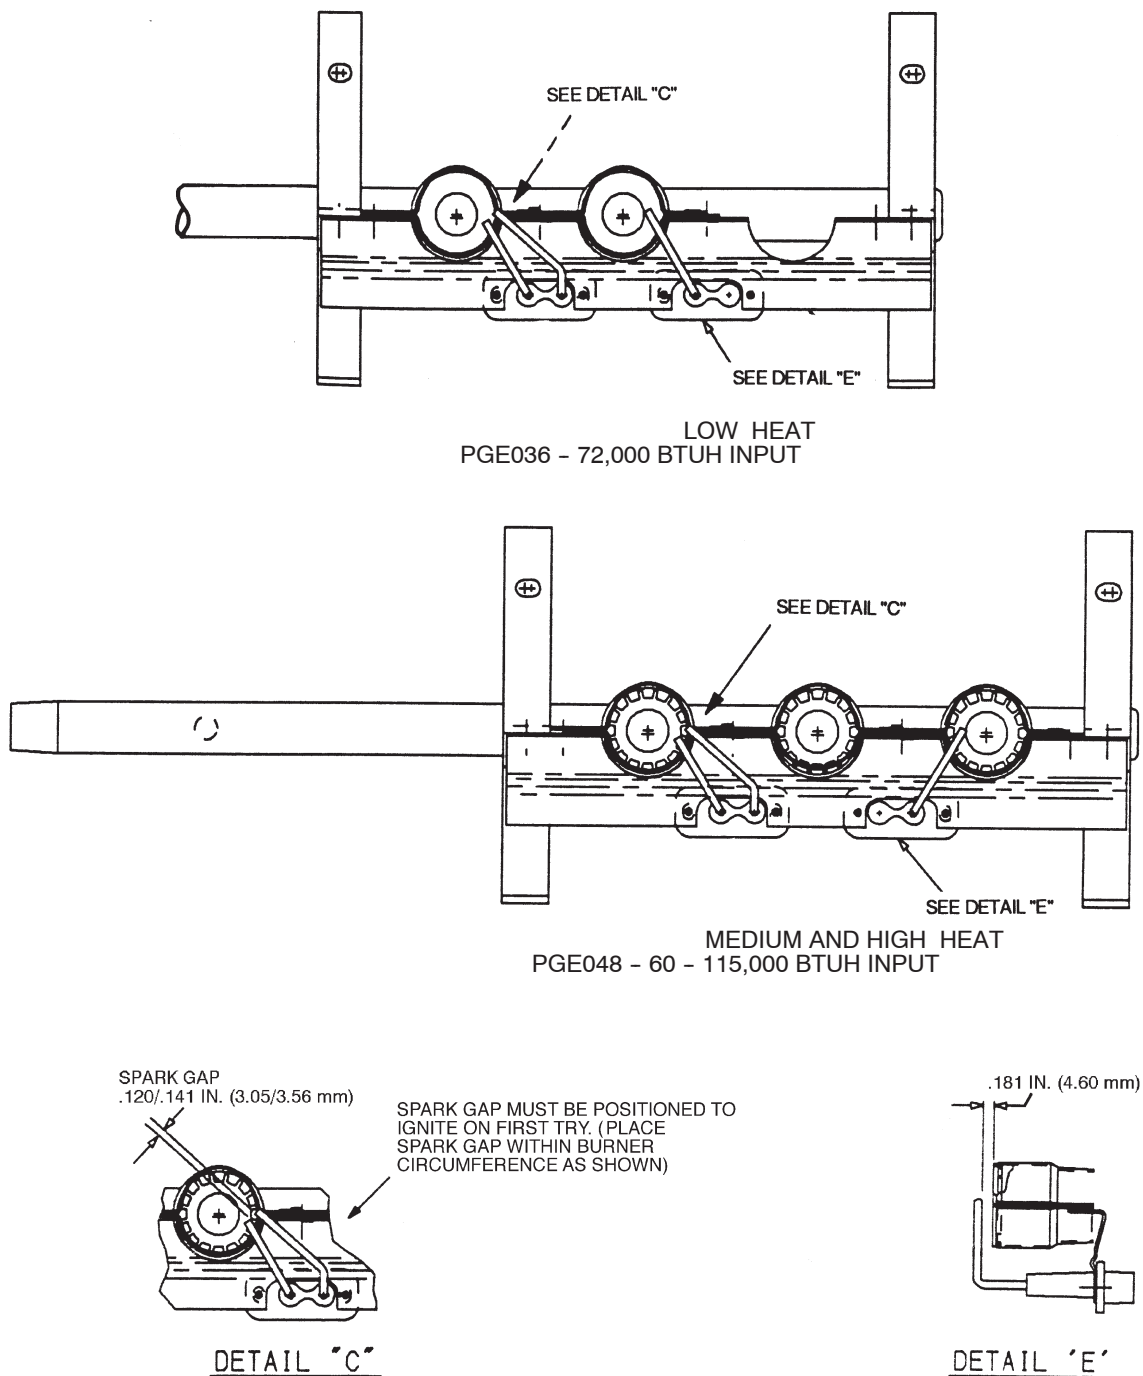

Fig. 22 – Spark Gap Adjustment
4. Adjust spark gap. (See Fig. 22)